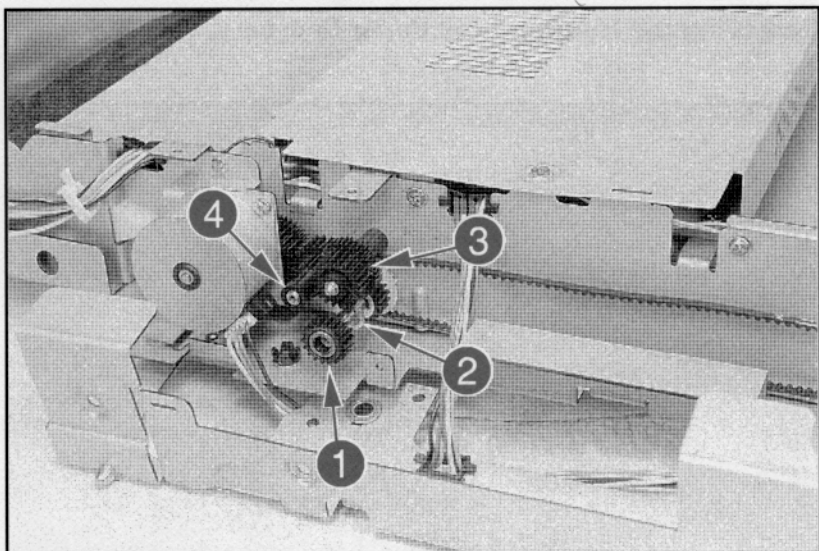

Figure A-21 **Holding Tray Gears and Belt**
6 Remove the (1) one-way gear shown in Figure A-21, callout 1.
7 Remove the (1) E-clip from behind the first gear (see Figure A-21, callout 2).
8 Remove the (2) gears shown in Figure A-21, callouts 3 and 4.